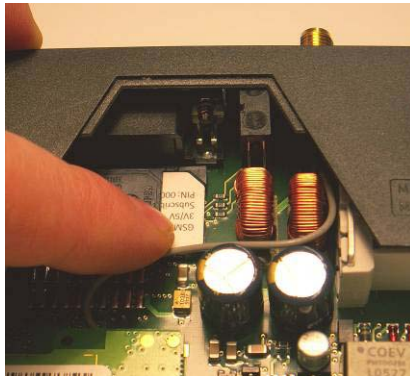

figure 2-10
10. Lower the flap paying attention to the notched corner of the SIM card (see figure 2-10).